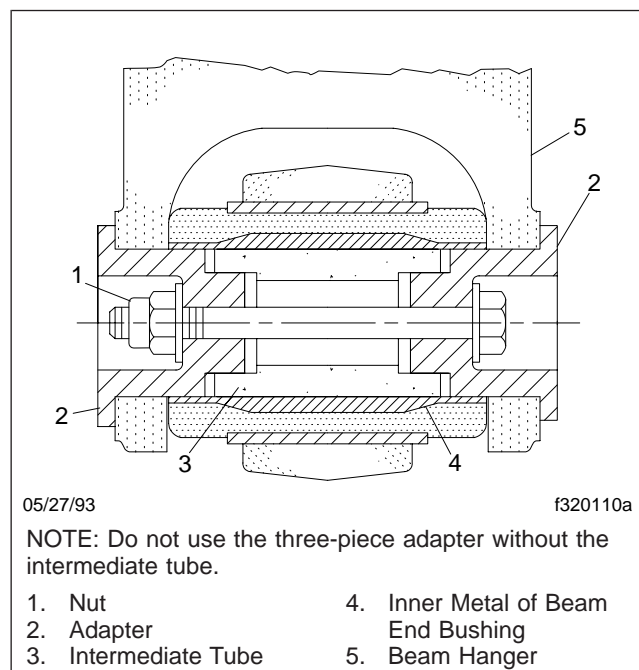
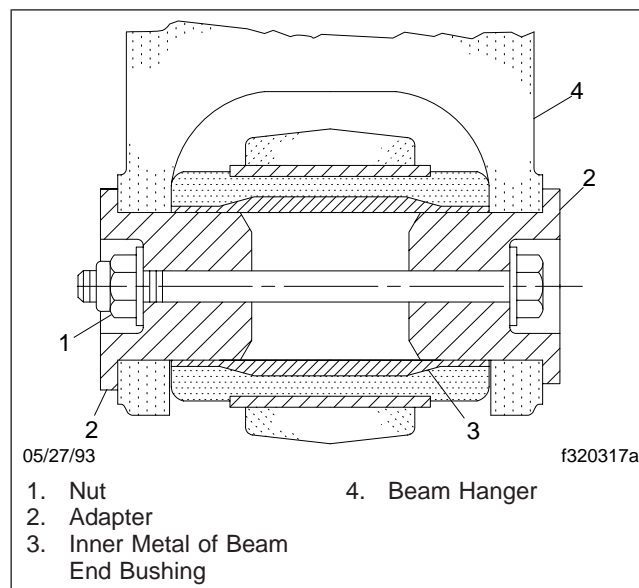

Fig. 6, Three-Piece Adapter-Type Beam End Connection
Fig. 7, Two-Piece Adapter-Type Beam End Connection
- After repairs to the suspension, check the fastener torque after the vehicle has been in service for 2500 miles (4000 km). If equipped with the adapter-type beam end connection (see Fig. 6 for the three-piece adapter-type beam end connection, or Fig. 7 for the two-piece adapter-type